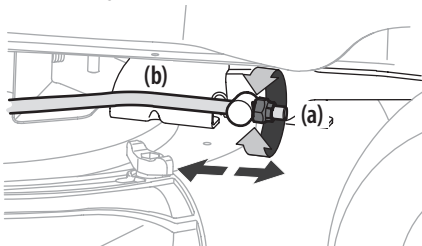

Figure 29
3. Locate the flange lock nut (a) on the front end of the PTO lift rod (b). See Figure 29.